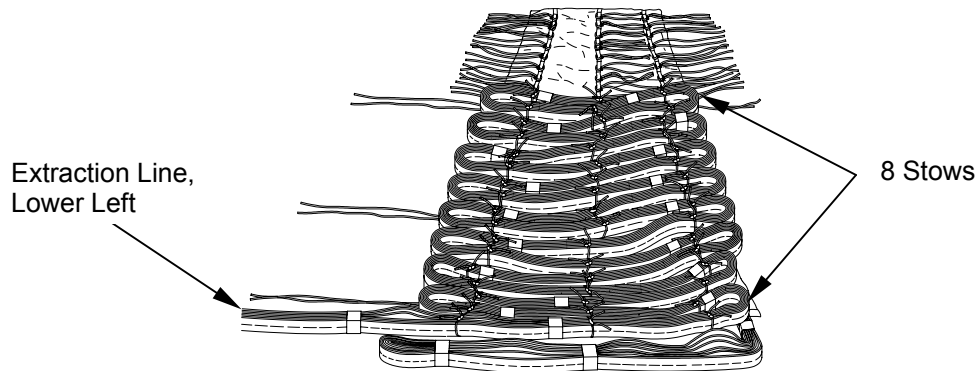

Figure 7. Extraction Line Stowed to Bottom Panel.
- e. Working from left to right, stow and secure extraction line on the bottom panel (8 stows on the left and 8 on the right) with extraction line routed from bottom panel at lower left corner. Secure extraction line using the type I, 1/4-inch cotton webbing with a surgeon's knot and locking knot (figure 7).